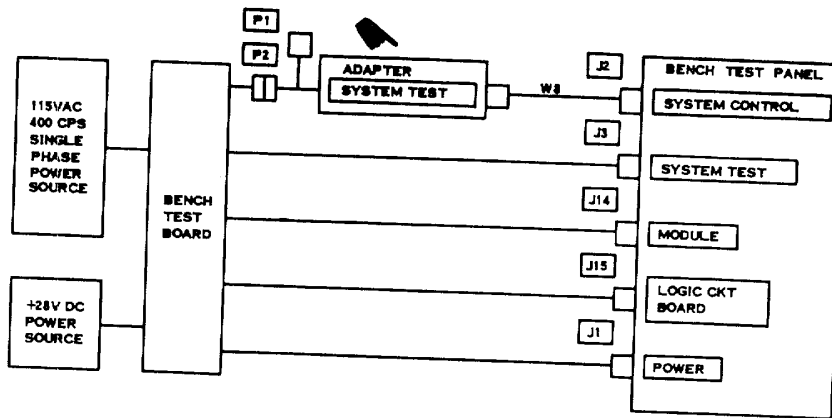

Figure 5-7. SYSTEM TEST position, operational test setup.
- (1) Test board
- (2) Multimeter
- (3) Oscilloscope
- (4) 1K, 1/2 -watt resistor.
- (5) 1-mfd capacitor.
- (6) Pulse generator.
- (7) Buffer amplifier.
b. Test Connections and Conditions. Connect bench test set to test board as shown in figure 5-7.